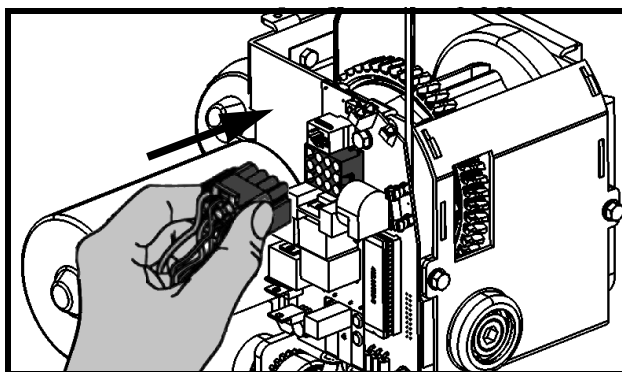

Fig. 29
- 1) Plug the main connector to the main board (see Fig. 29).